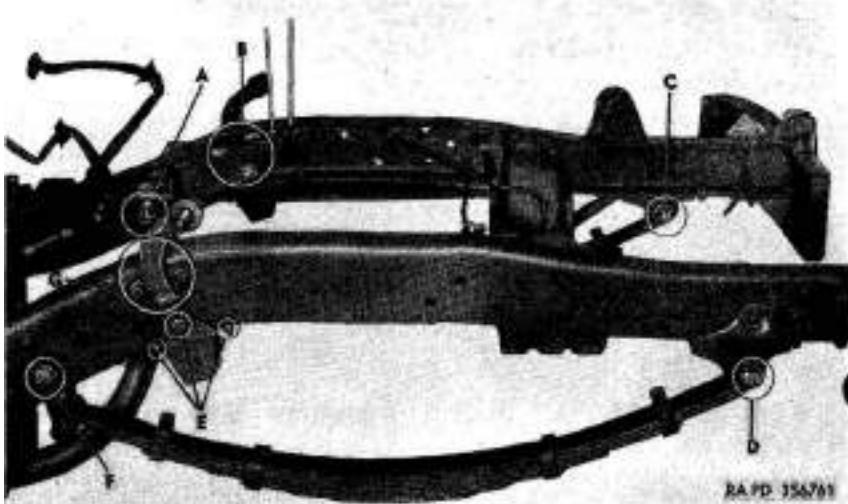

Figure 30. Front suspension disconnect points.
a. Remove Front Spring Assemblies and Shock Absorber Frame Brackets (fig. 30).
- (1) Install front shock absorber frame brackets and front spring torque arrester assemblies (fig. 30) (two 5/8-18NF x 2 cap screws (G, fig. 30) , two $\frac{3}{8}$ -inch internal-external-teeth lock washers, three $\frac{3}{8}$ -18NF nuts (B, fig. 30), two $\frac{3}{8}$ -24NF x 1 cap screws, (E, fig. 30), two $\frac{3}{8}$ -inch lock washers, and two $\frac{3}{8}$ -24NF nuts, each side).